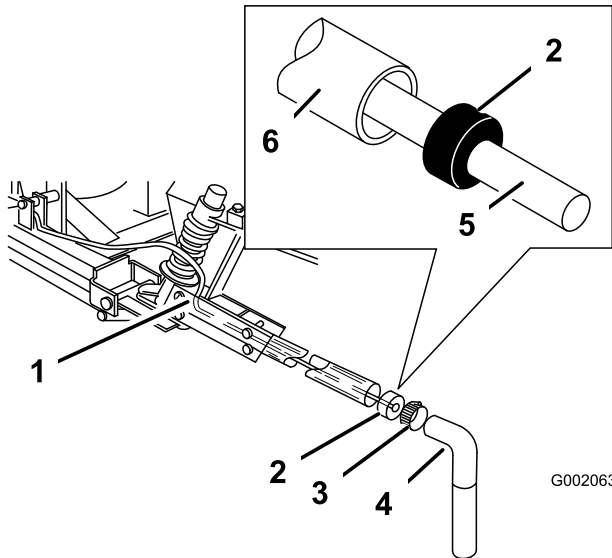

Figure 29
6. Insert the boom hose into the hole drilled in the right boom pipe and push it into the boom pipe until the hose appears at the end of the boom pipe. Pull the tubing through and cut away the excess so that **2 to 3 inches** of boom hose **extends beyond** the end of the boom pipe (Figure 29).
7. Push the boom hose through the punched hole boom cap until it **extends 2 to 3 inches past the cap** (Figure 29).
8. Install the boom cap into the end of the boom pipe (Figure 29).
9. Lubricate the inside of the extension hose and slide it over the cap and boom hose and onto the boom pipe (Figure 29).
10. Secure the extension hose onto the boom pipe with a large hose clamp (Figure 29).